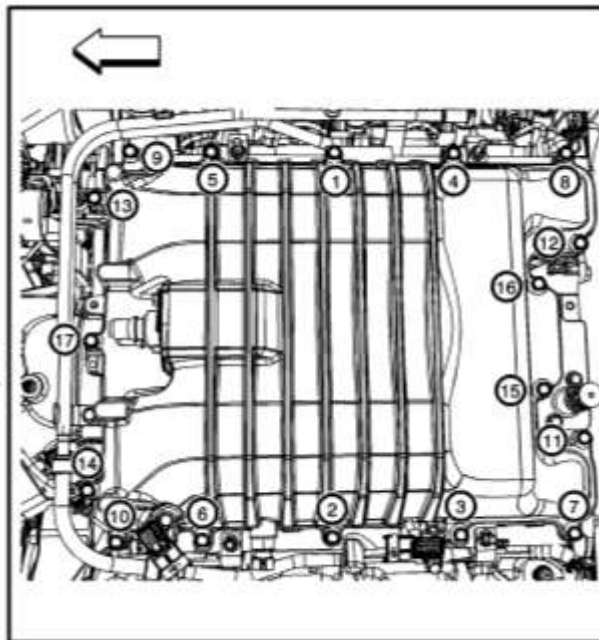

Figure 3: upper supercharger case torque sequence
- Reinstall the upper supercharger case (replace gaskets 509 and 511 above as well GM# 12613457 and 12612467) and torque the 17 bolts to 89 lb-in in the sequence shown in figure 3.